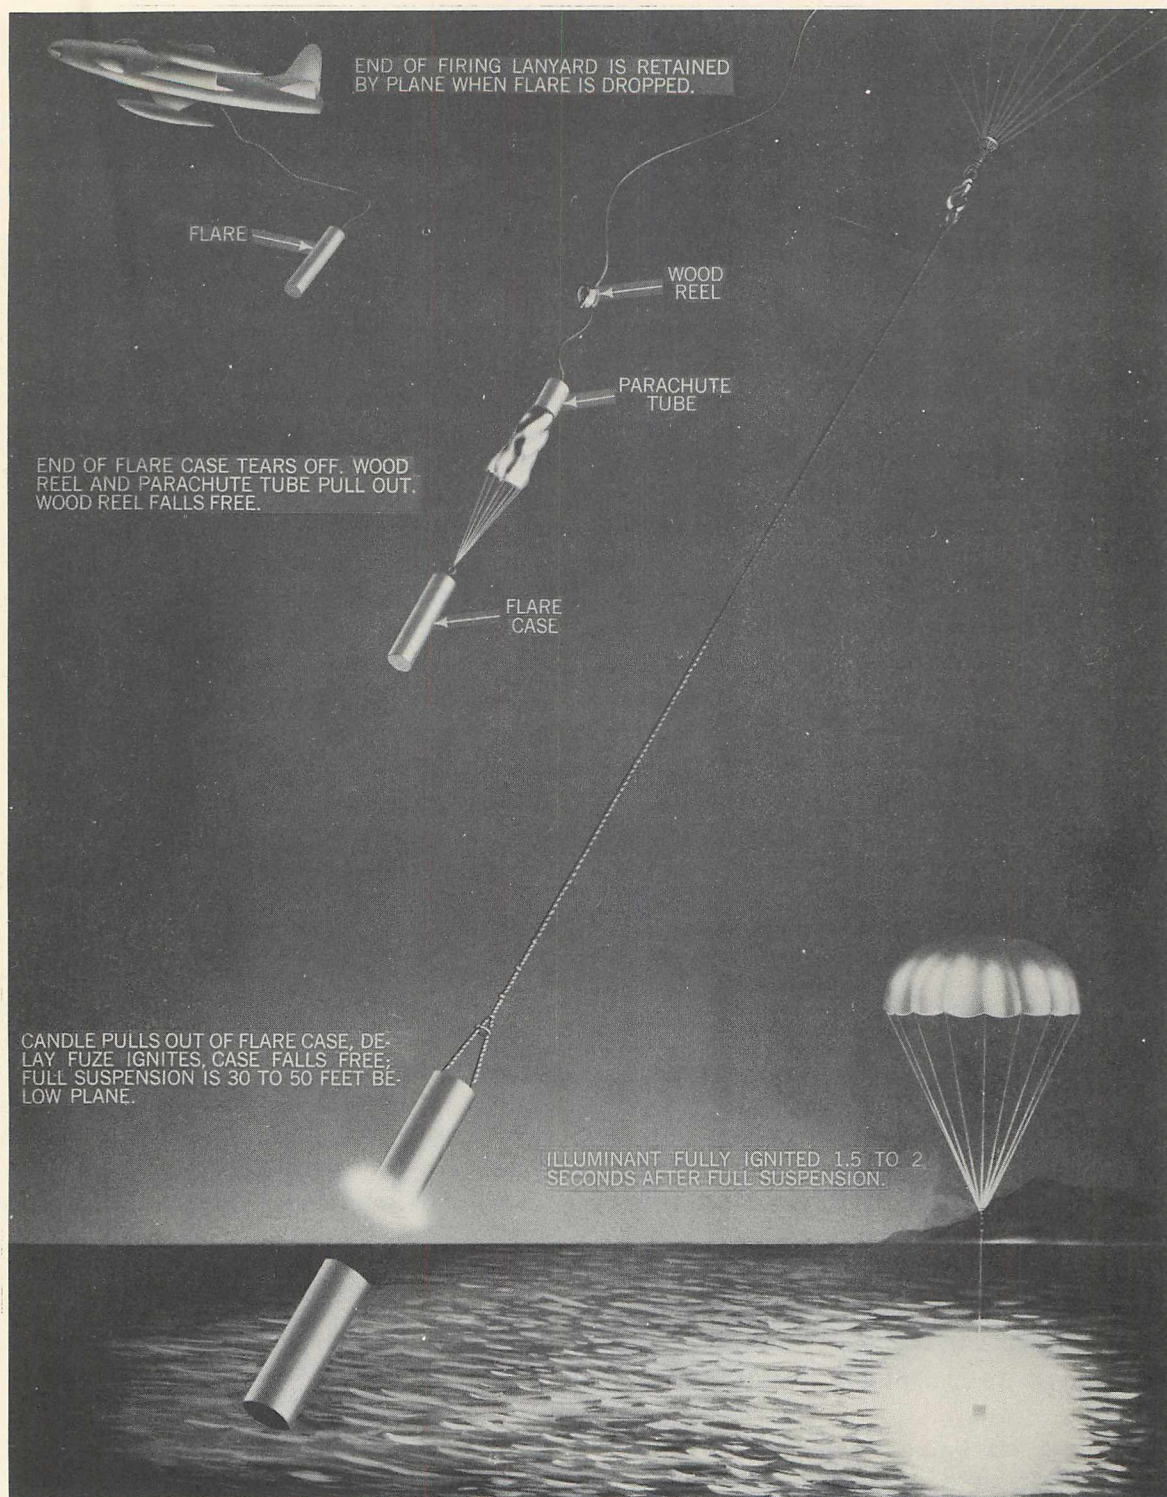

Figure 1.3—Operation of Immediate-Functioning-Type Flare.
**IMMEDIATE - FUNCTIONING - TYPE FLARES.** The operation of the immediate-functioning-type flare is illustrated in figure 1.3. The length of ripcord necessary to allow the flare to drop below the launching aircraft before it begins to function is contained on a wood reel at the parachute end. The ripcord tears along the case to the ripcord spool. It unwinds from the spool, tears away the end of the case, and pulls the parachute tube out of the case. When the parachute, shroud cords, and suspension cable become taut, the release-key cord pulls the release-key and allows the ripcord to become detached.